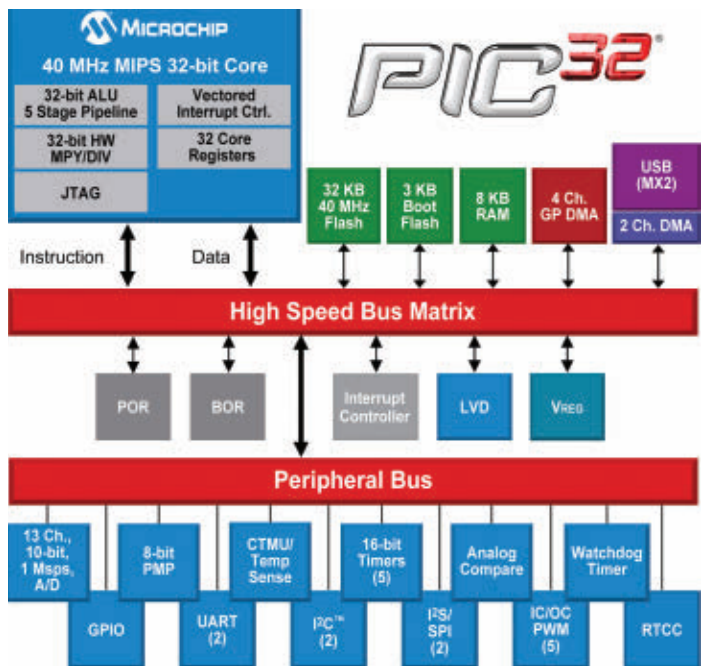

FIGURE 3. PIC32MX block diagram.
■ **FIGURE 3.**
Figure 3 is a photograph of my rig mounted right on the computer desk within easy reaching distance. As you can see, both switches and most of the jacks appear on the front panel. However, the four RCA jacks (which go to the cassette deck in my situation) are mounted on the bottom of the case. The three sound card cables also exit the box at the bottom.
Note the block diagram of the PIC32 internals in **Figure 3**. Like the PIC24F, it is also a +3.3V part; however, it can accept +5V logic level inputs on certain pins without damage. The PIC32 has two internal busses. The top bus is the faster of the two and runs at the system CPU clock rate. This bus allows simultaneous communications for devices without bus contention. Devices on this bus are the 32 Core CPU, the eight channel DMA (Direct Memory Access) controller, and USB. Other components on this bus are Flash, RAM, an interrupt controller, all the digital ports, and a peripheral bridge (a connection to all the on-chip peripherals). It is interesting to note that digital ports reside on the high speed bus. This means they can be toggled (on/off) at the 40 MHz rate, to be able to generate digital signals of up to 20 MHz if needed. With the use of DMA, this port (or any other peripheral) can access memory directly without CPU (software) intervention for data transfers.